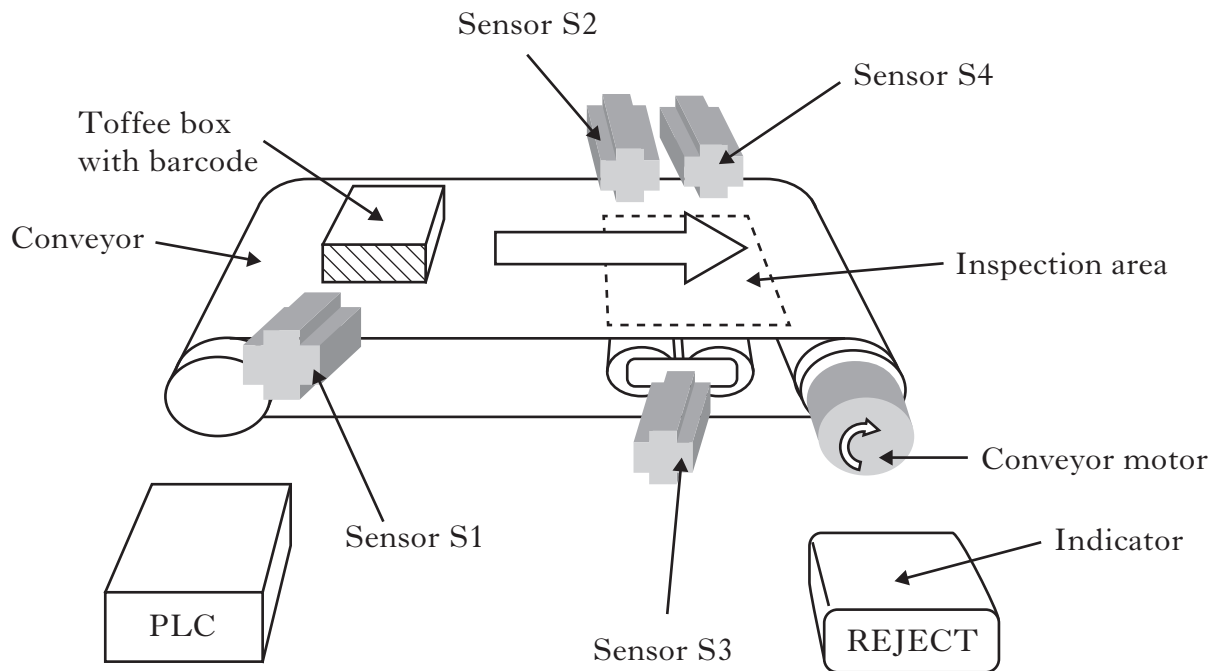

Figure Q12
12. Figure Q12 shows an inspection system controlled by a PLC.
- (c) Produce a table which shows the PLC I/O allocation for the inspection system shown in Figure Q12. 3